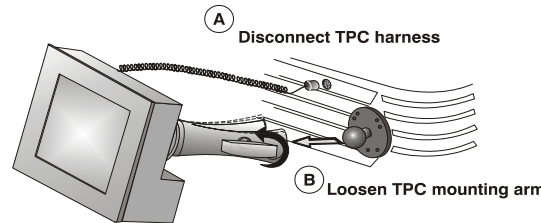

Figure 5-3 Remove TPC
1. Remove the TPC. **(Figure 5-3)**
- b. Loosen the TPC mounting arm so it can be removed from the ball joint on the projector's back cover. **(Figure 5-3)**